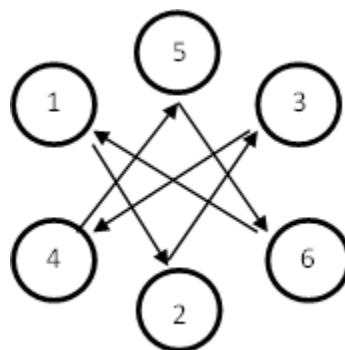

Figure 48: Propeller installation / propeller extension installation torque pattern.
Bolts / nuts should be torqued in the following sequence (as indicated in Figure 48) when securing the propeller extension to the engine hub or when securing a propeller to the propeller extension.
- Observe washer placement (refer to Figure 49). Torque the bolts to the correct value (refer to paragraph 1.5.2). Torque in a star pattern / sequence as shown in Figure 48.